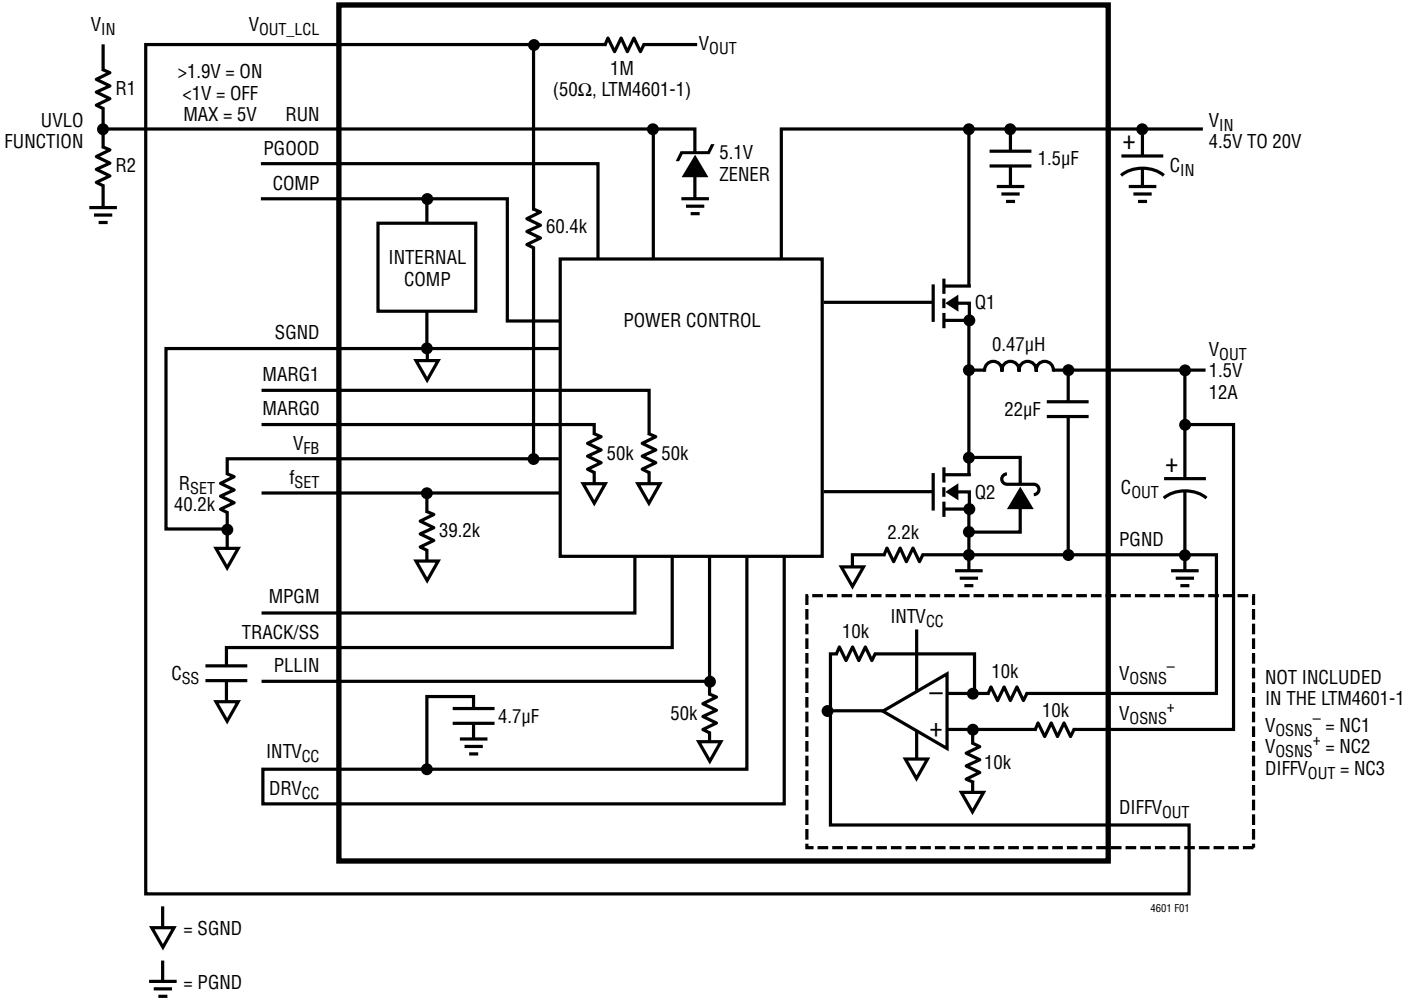

Figure 1. Simplified LTM4601/LTM4601-1 Block Diagram
**RUN (Pin A10):** Run Control Pin. A voltage above 1.9V will turn on the module, and when below 1V, will turn off the module. A programmable UVLO function can be accomplished by connecting to a resistor divider from  $V_{IN}$  to ground. See Figure 1. This pin has a 5.1V Zener to ground. Maximum pin voltage is 5V. Limit current into the RUN pin to less than 1mA.
**DECOUPLING REQUIREMENTS**  $T_A = 25^\circ C, V_{IN} = 12V$ . Use Figure 1 configuration.
See Figure 1, Simplified Block Diagram.